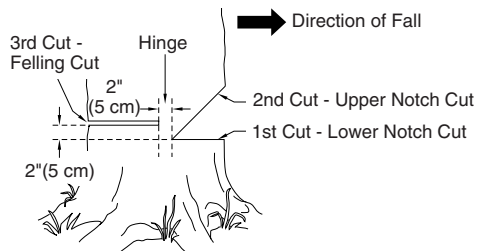

Figure 12 - Felling A Tree
A properly placed felling notch will determine direction tree will fall. Place felling notch on side of tree in direction you want tree to fall (see Figure 12). Follow directions below to create a felling notch.
1. Make lower notch cut as close to ground as possible. Hold saw so guide bar is horizontal. Cut 1/3 the diameter of tree trunk (see Figure 12). *Note:* Always make this horizontal lower notch cut first. If you make this cut second, tree can pinch chain or guide bar.
2. Start upper notch cut the same distance above first cut as first cut is deep. *Example:* If lower notch cut is eight inches deep, start upper notch cut eight inches above it. Cut downward at 45° angle. The upper notch cut should meet end of lower notch cut (see Figure 12).
1. Make felling cut two inches higher than lower notch cut and on opposite side of tree (see Figure 12). Keep felling cut parallel to lower notch cut.
WARNING: Do not cut all the way through tree. Leave about two inches of tree diameter uncut directly behind felling notch (see Figure 12). This uncut portion acts as a hinge. The hinge helps keep tree from twisting and falling in wrong direction.